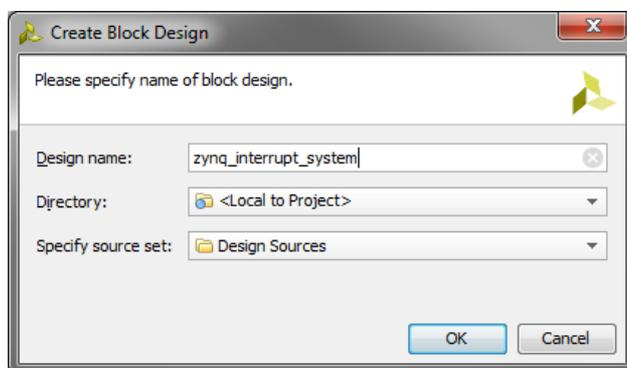

Figure 2.6: Create Block Design Dialogue
- (b) Enter **zynq_interrupt_system** in the Design name box, as in Figure 2.6: